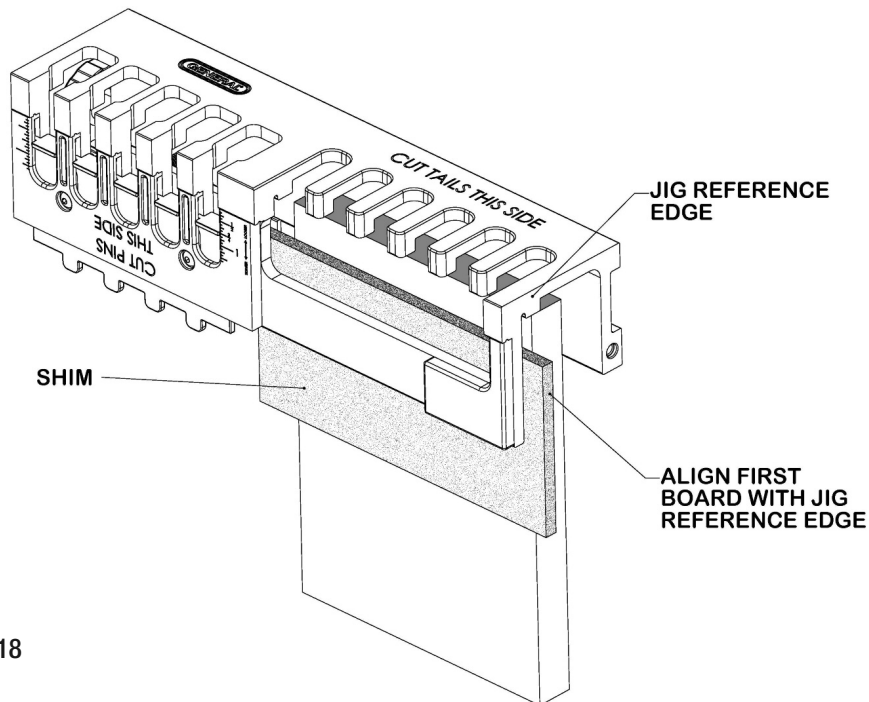

FIG. 18
2. Insert the first board into the "TAILS" section of the Dovetail Jig along with 1/4 in. thick shim to offset the board away from the rounded position of the template in the jig. (FIG. 18)
3. Align one edge of the board to be cut with the outside edge of the jig. (FIG. 18)